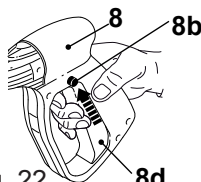

Fig. 22
5. Lock the trigger (8d) by pressing the activate button (8b) (Fig. 22).